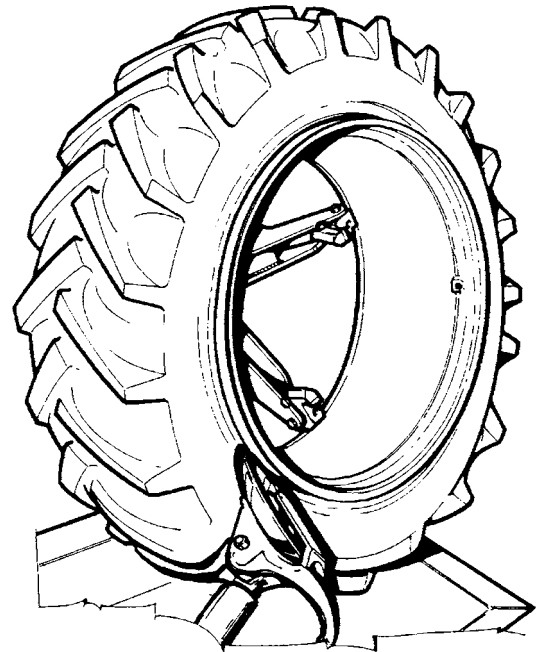

Fig.42
3. Loosen the outer bead in the same way, taking care not to damage the valve stem (fig.42).